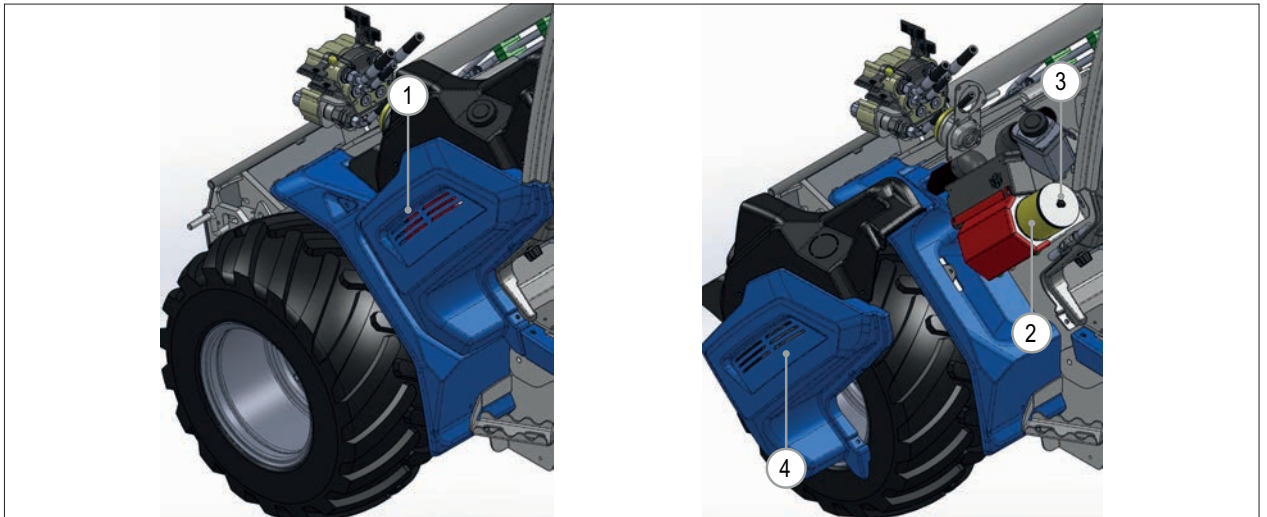

FIG. 50
- 2) Remove the left panel (FIG. 50 - Rif. 1) by loosening the screws that secure it to the frame.
- 3) Remove the air filter (FIG. 50 - Rif. 2) by loosening the screw that secure it (FIG. 50 - Rif. 3).
- 6) Reinstall the left panel (FIG. 50 - Rif. 4) and secure it with the screws.